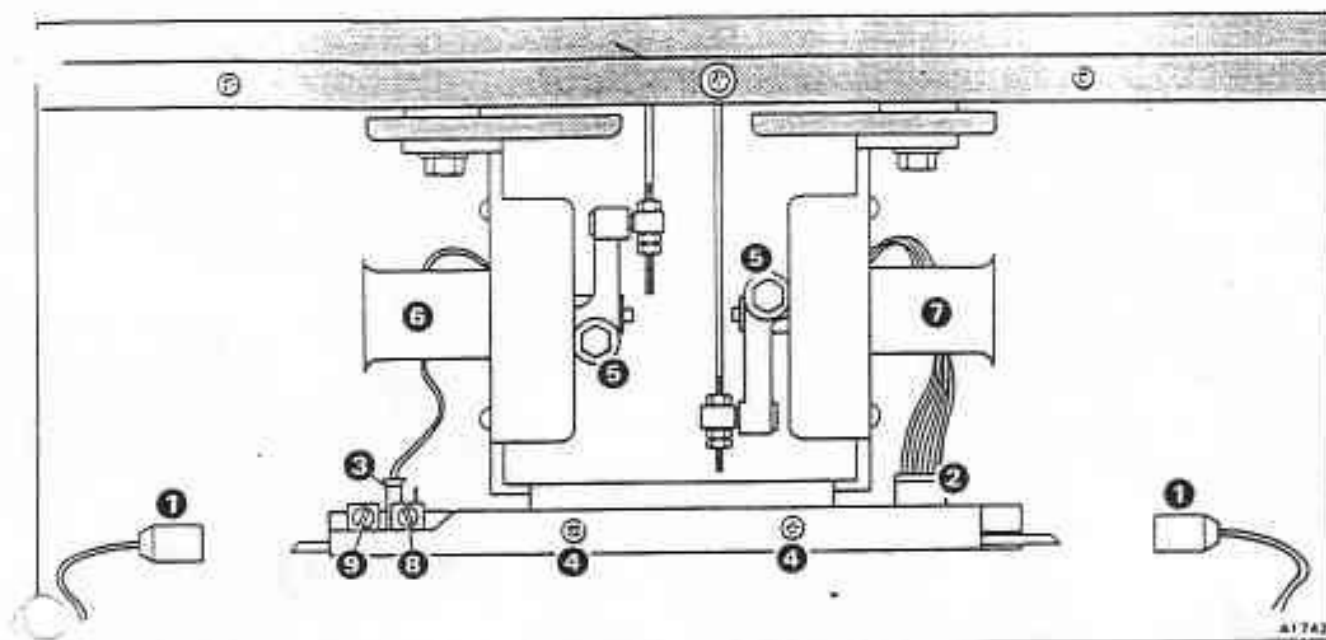
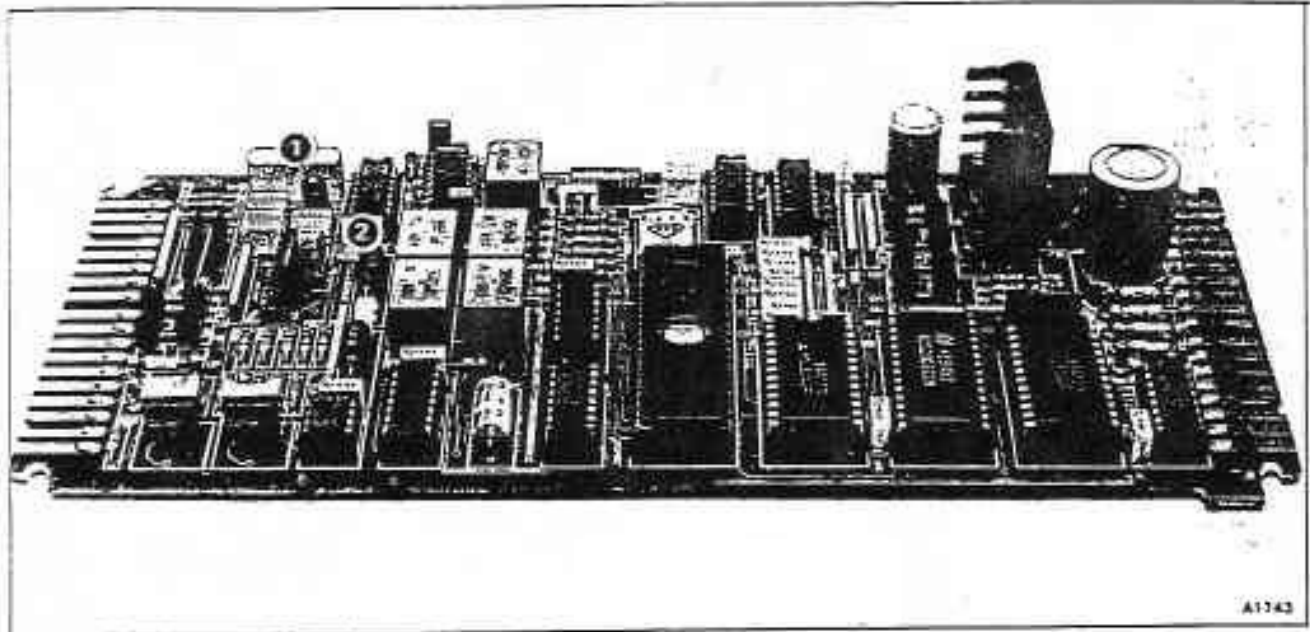

Fig. C4-4 Micro-processor and blend flap actuators assembly
Fig. C4-5 Air conditioning micro-processor board
Micro-processor board – To remove (see fig. C4-4)
Micro-processor initializing procedure (refer to figs. C4-4 and C4-5).
3. Fit the micro-processor board test pins link RH 9884 DET 2 or bridge the test pins (see fig. C4-5 item 2).
4. Slacken the actuator arm securing bolts at the upper and lower blend flap actuators (see fig. C4-4 item 5).
6. Select OFF position at the air conditioning function switch on the facia. The lower blend flap actuator (see fig. C4-4 item 6) will operate and continue to operate during procedure 7.
7. Rotate the lower blend flap potentiometer (see fig. C4-4 item 8) throughout the full range of its travel, noting the portion of travel for which the LED (light emitting diode) on the micro-processor board (see fig. C4-5 item 1) illuminates.
9. Rotate the upper blend flap potentiometer (see fig. C4-4 item 9) throughout the full range of its travel, noting the portion of travel for which the LED on the micro-processor board illuminates.
11. Tighten the actuator arm securing bolts at the upper and lower blend flap actuators (see fig. C4-4 item 5).